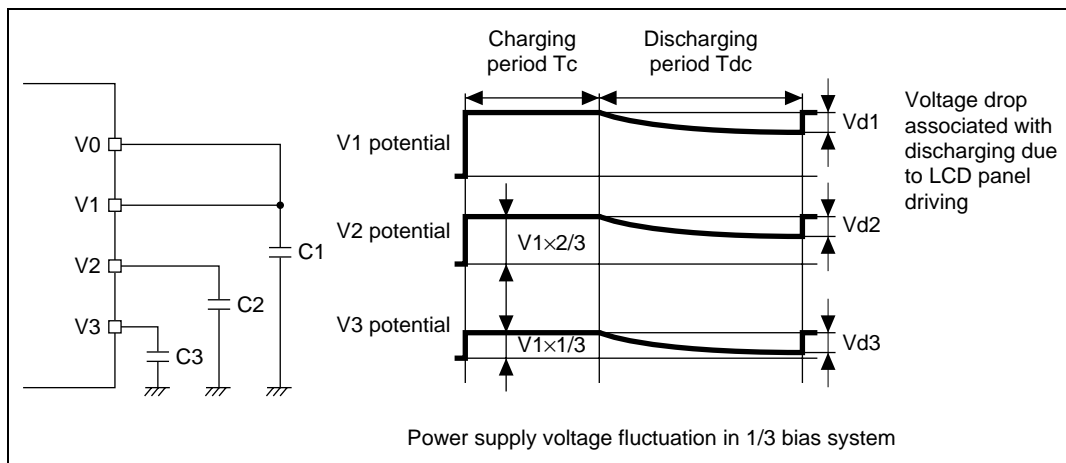

Figure 13.14 Example of Low-Power-Consumption LCD Drive Operation
- a. Capacitors are connected as external circuits to LCD power supply pins V1, V2, and V3, as shown in figure 13.14.
- b. The capacitors connected to V1, V2, and V3 are repeatedly charged and discharged in the cycle shown in figure 13.14, maintaining the potentials.
- a. During charging period T_c in the figure, the potential is divided among pins V1, V2, and V3 by the built-in split-resistance (the potential of V2 being 2/3 that of V1, and that of V3 being 1/3 that of V1), as shown in figure 13.14, and external capacitors C1, C2, and C3 are charged. The LCD panel is continues to be driven during this time.
- d. In this way, the capacitors connected to V1, V2, and V3 are repeatedly charged and discharged in the cycle shown in figure 13.14, maintaining the potentials and continuously driving the LCD panel.